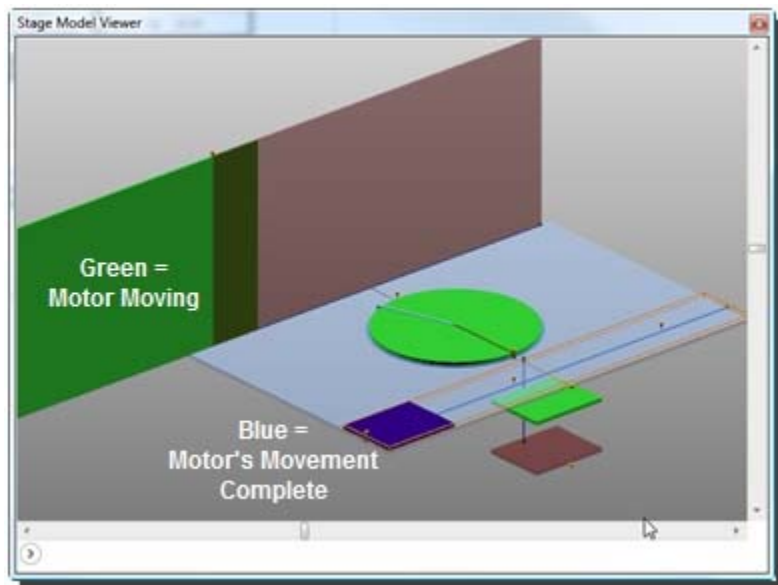

Figure 330
2. The motor(s) that are moving in the Cue change to green inside the **Stage Model Viewer** (Figure 330).